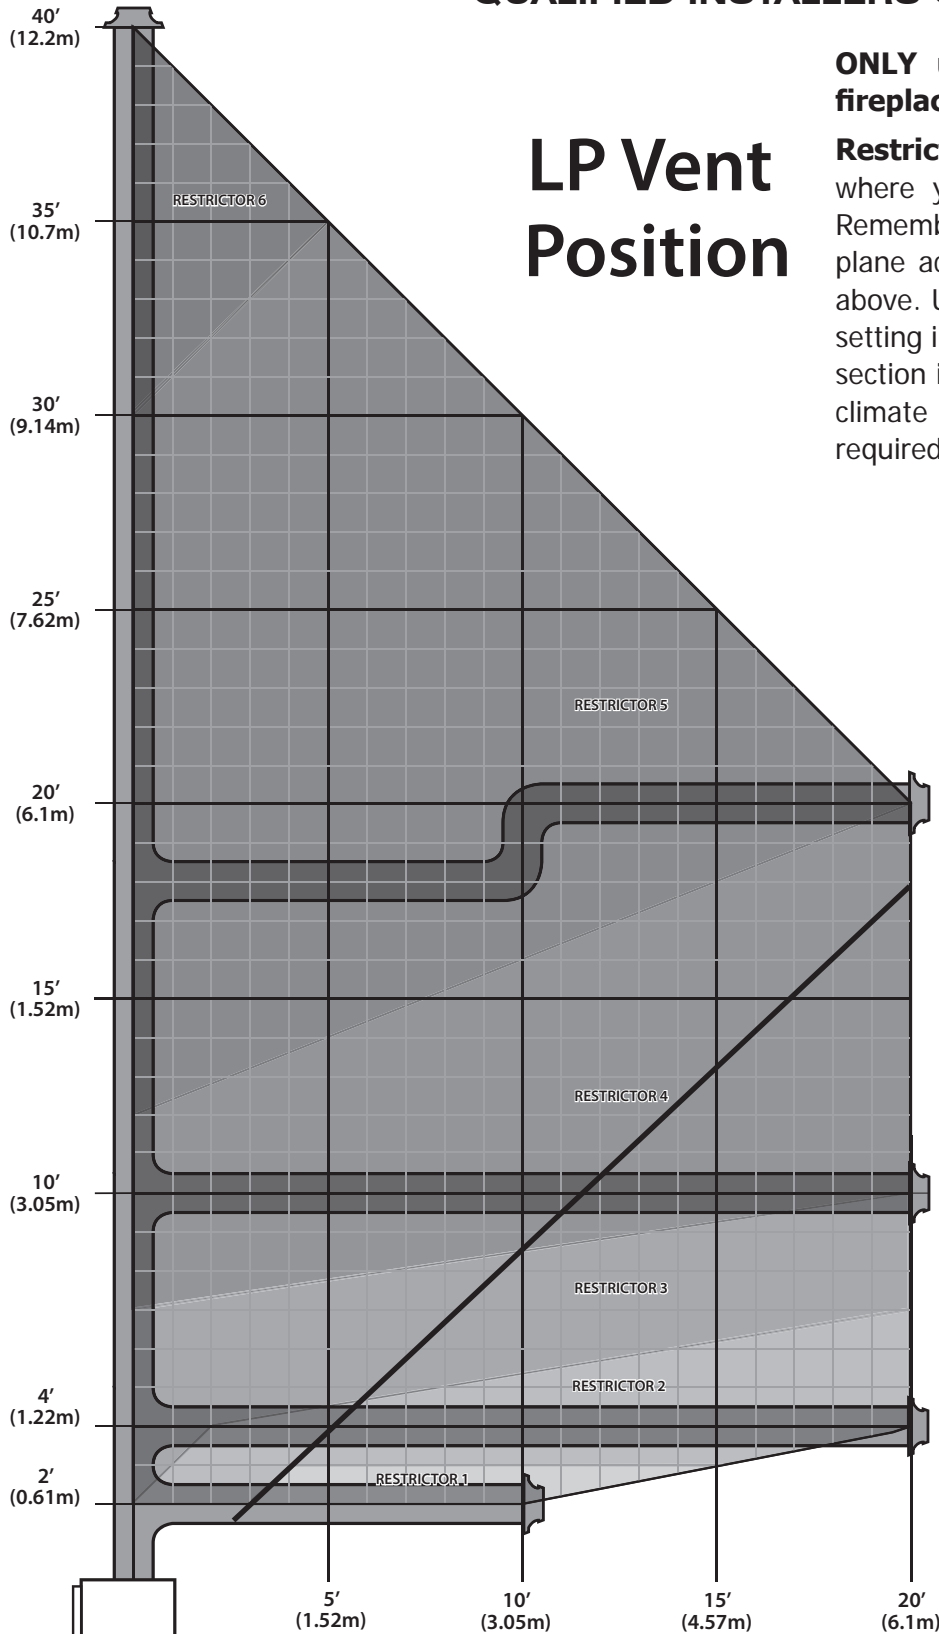

Figure 61. LP Vent Graph
**Table 7: Minimum 'H' for Figure 61.**